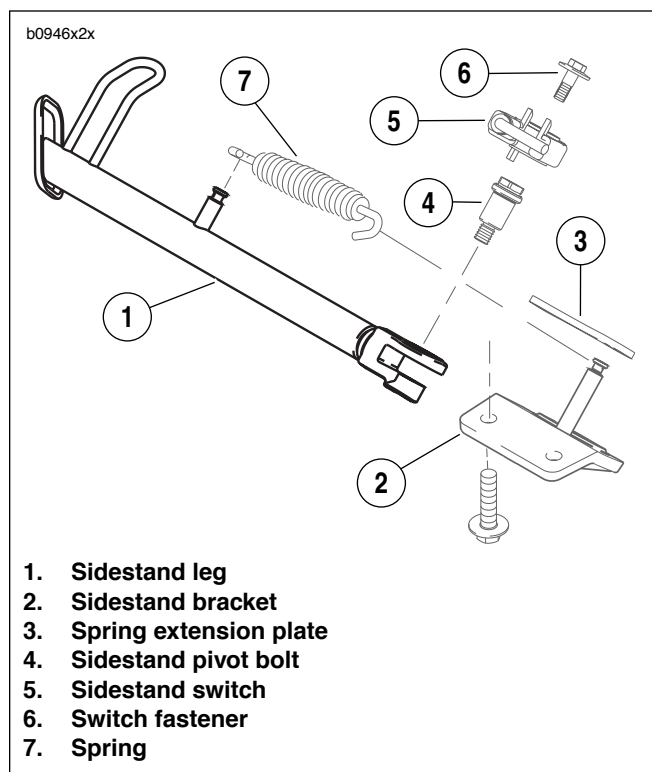

Figure 3. Sidestand Assembly
2. See Figure 3. Remove sidestand switch (5).
- a. Retract sidestand leg (1).
- b. Remove switch fastener (6).
- d. Lift sidestand switch and slide to the right away from spring post on sidestand bracket (2) and leave attached to harness.
3. Remove sidestand leg (1).
- b. Remove sidestand spring (7) and spring extension plate (3) using SNAP-ON SPRING TOOL (Part No. HE-52B).
- c. Remove sidestand pivot bolt (4).
- c. See Figure 3. Install sidestand (1) and sidestand pivot bolt (4) tightening to 18-20 ft-lbs (24-27 Nm).
- e. Install spring extension plate (3) and sidestand spring (7) using SNAP-ON SPRING TOOL (Part No. HE-52B).